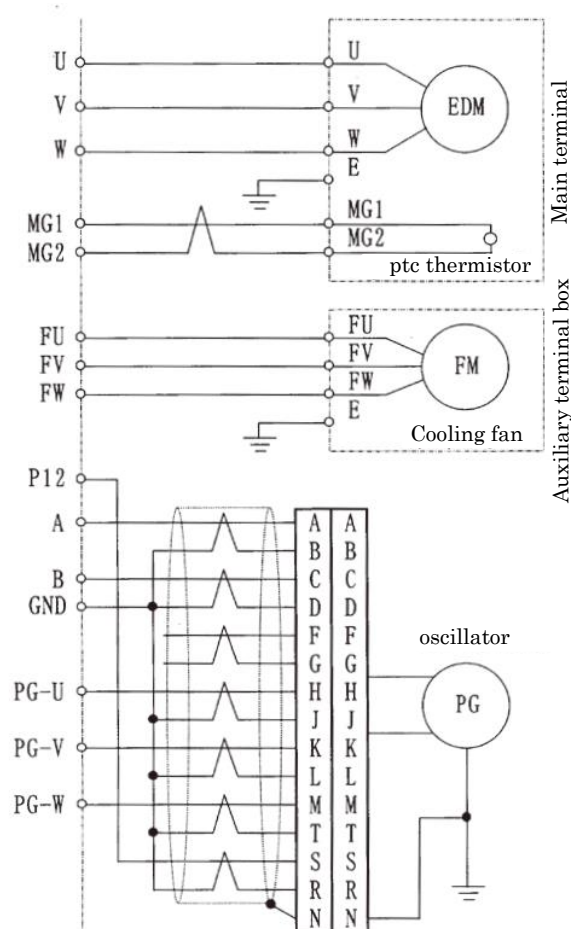
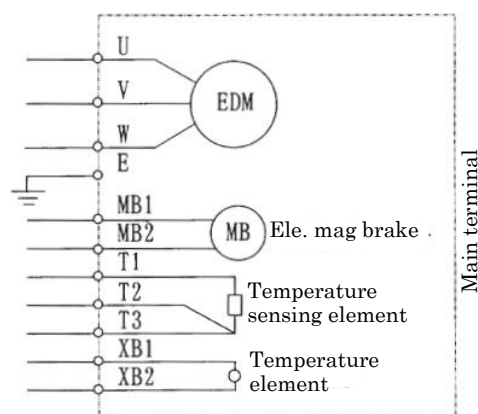

Fig. 5
Fig. 6
Fig. 5 shows the standard connection diagram. In case that the temperature sensing element (pt100Ω), temperature element (bimetal type) and electromagnetic brake are provided, all these terminals are housed in the main terminal box and their terminal symbols are as shown in Fig. 6.
- (1) Terminals must be connected correctly in accordance with connection diagrams (Fig. 5, Fig. 6).